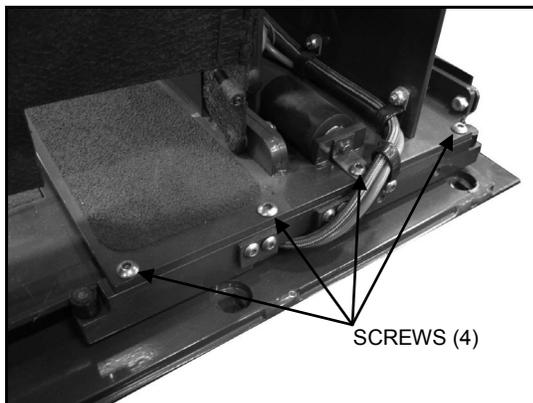

FIGURE 3-13
10. Refer to **Figure 3-13**. Remove the four roller rail-retaining screws located at bottom of sliding tower.